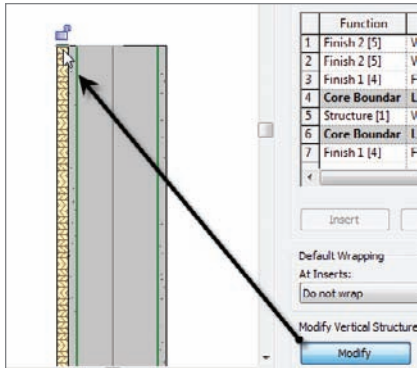

FIGURE 16.8 Unlocking the plywood to enable independent movement once the wall is placed into the model
7. Pan to the top of the wall in the display, as shown in Figure 16.8.
8. Click the Modify button, as shown in Figure 16.8.
9. Hover your cursor over the top of the 3/4" plywood, as shown in Figure 16.8.
11. Unlock the blue padlock (see Figure 16.8).